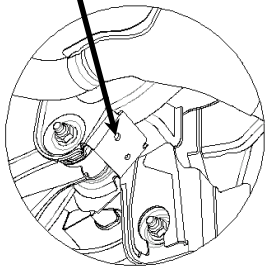

Figure 3
1. Remove the existing inner tailpipe hanger 8mm bolt, and replace with supplied M8 x 55mm bolt (item 1) and 5/16 flat washer (item 12). Both sides. Tighten bolt to specification. Hang 1/2" flat washers (2 each side) over weld nut on 8mm bolt. Return bolts to owner.
2. Install forward hitch bracket "A" or "B" as shown. Slide "handle-nut" (item 10) behind the vehicle cross-member on the driver's side, using the 1/2-13 X 1.5 bolt (item 8) and 1/2" conical washer (item 6). Attach the forward bracket that's called out for the vehicle. Hand tighten only.
- On Buick LaCrosse and Cadillac XTS enlarge rearward hole on vehicle suspension mount to accept a 1/2 bolt. See Figure 3
3. Raise rearward section of the hitch into place, over 8mm bolts (installed in step 1) sandwiching the 1/2" flat washers between end panel and hitch bracket. Attach the 3/8" conical washers & M8 hex nuts (item 3 & 4) to M8 bolts. Hand tighten only.
4. Install the 1/2" carriage bolts (4) into the plate on the hitch's support plate.
5. Raise the center section of the hitch into place, lining up carriage bolts on hitch support plate. Attach (4) 1/2" conical washers and 1/2" hex nuts to carriage bolts. Hand tighten only.
6. Attach the forward end of the center section to the forward bracket with the 1/2" bolt & 1/2" conical washer (item 9 & 3), install from the bottom. Attach the 1/2" conical washer and 1/2" hex nut. The center section is designed to pivot, for better installation.